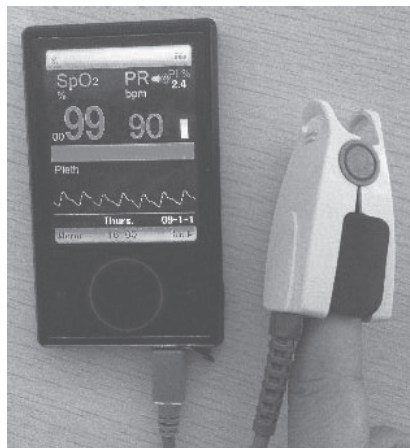

Figure 5.
6.1.1. Connect the probe well according to the method introduced in chapter 5.3, then put the finger into the probe. Refer to Figure 5.